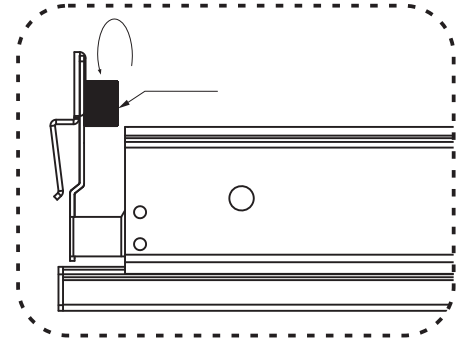

Figure1
3. Unlock the two nuts at the ends of the linear light (Figure1).
Pls note: The adiacent T-grid must be fixed by the pendant; please do not replace the main-tee. (figure1)